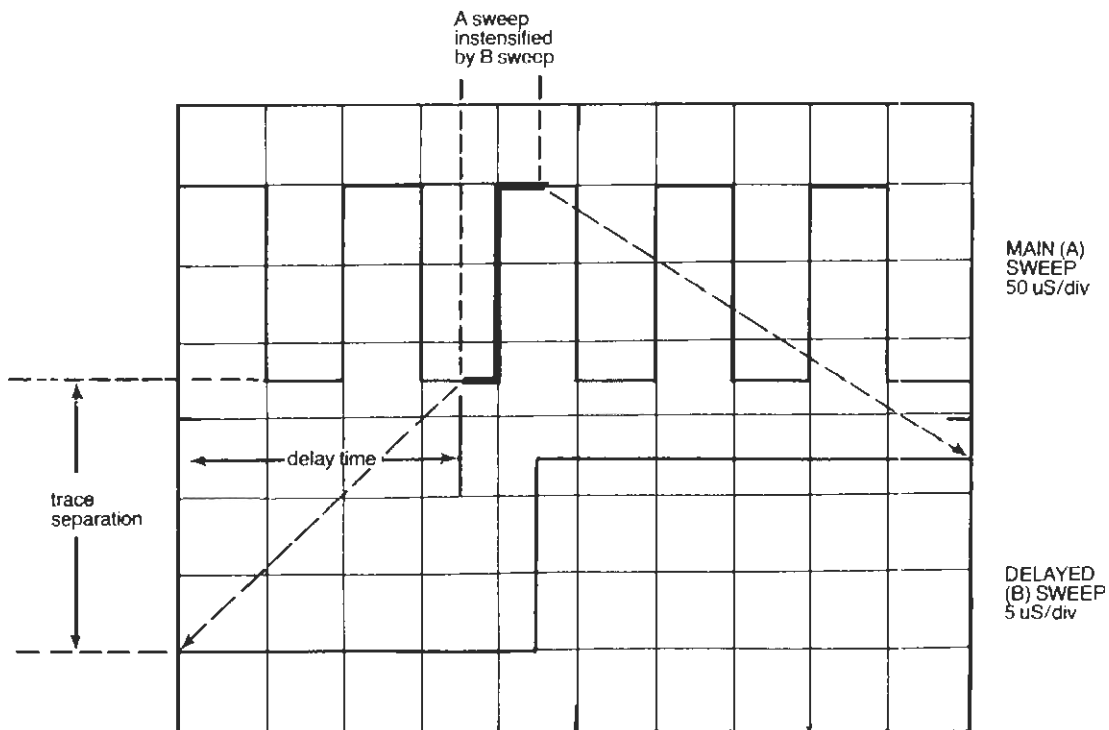

Figure 2-12. Delayed sweep display of one vertical channel
1. Adjust the VOLTS/DIV switch(es) (11) so the trace height(s) does not exceed 4 screen divisions if one vertical channel is used, or 2 screen divisions if both vertical channels are used. This is simply to ensure that there is room for all traces later.
3. Make sure the TRIG'D pushbutton (27) is out, the INTEN control (2) is turned up for a bright display, and the B TIME/DIV switch (21) is set to a faster sweep than is the A TIME/DIV switch.
4. Press the B HOR DISP pushbutton (26) while holding in the A pushbutton (i.e., both the A and B HOR DISP pushbuttons must be locked in the recessed position).
5. Use the TRACE SEP control (25) to move the delayed (B) trace(s) to the vacant area(s) above or below the main (A) timebase trace(s).
6. The section of the main (A) timebase trace(s) corresponding to the B sweep time will be brighter than the rest of the main timebase trace(s), as shown in Figure 2-12. Adjust the INTEN control if necessary for a proper display.
**NOTE:** The main (A) trace(s) will look like a partial trace if brightness is insufficient. If the brightness is excessive, the B-intensified portion of the A trace(s) will be indistinguishable from the rest of the A trace(s). Furthermore, the intensified portion of the A trace(s) will be quite small if there is a large difference between the settings of the A and B TIME/DIV switches.
7. Turn the B TIME/DIV switch (21) until the intensified portion of the trace widens to an amount equal to the portion of the trace you wish to magnify.
8. Turn the DLY TIME MULT control (23) to position the intensification over the portion of the A timebase trace(s) you wish to magnify.
**B Sweep Only.** After you have set the DLY TIME MULT control and B TIME/DIV switch according to the **Alternate Sweep** procedure, you can reduce screen clutter by eliminating the main (A) timebase trace(s). To do this, simply press the B HOR DISP pushbutton again. The A pushbutton will pop out and the A timebase trace(s) will disappear. This allows you to increase the screen height of the B timebase trace(s).